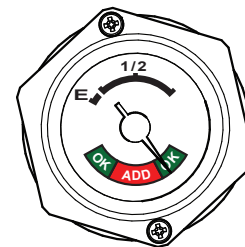

Figure 15. Propane Tank Fuel Gauge
2. Read the **propane fuel gauge** (Figure 15) located on top of propane tank.